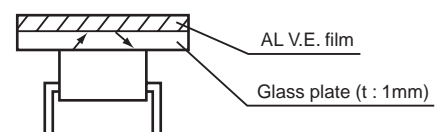

Fig. 1 Location of Reflector
*1 Location of reflector is show in Fig. 1.